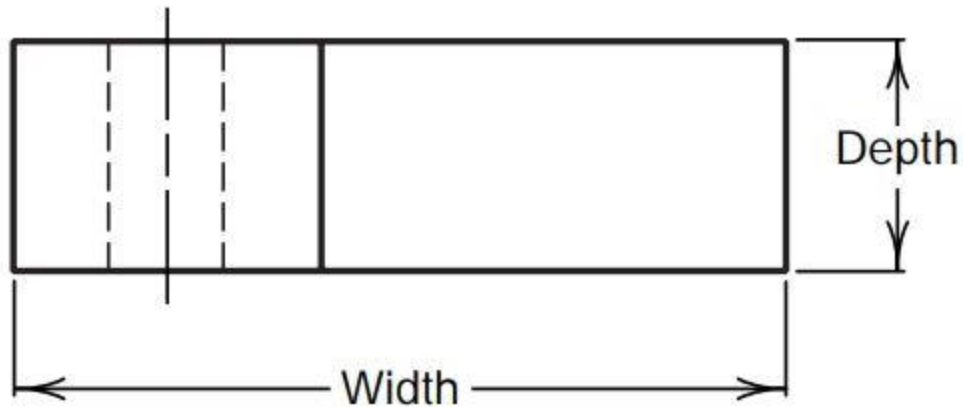

Figure 2: Dimensions indicating the width and depth (or height) of an object
(A) **Horizontal:** this distance or measurement is made from left to right (or vice versa) relative to the drawing plane (paper or computer), as shown by the *width* (the horizontal dimension) in Figure 2. Horizontal and vertical distances can be expressed in standard units of linear measurement—mainly in meters, millimeters, inches, and feet.
(B) **Vertical:** this distance or measurement is made from up to down (or vice versa) relative to the drawing plane (paper or computer), as shown by *depth* or *height* (the vertical dimension) in Figure 2.
Angular dimension is the type of engineering drawing dimension that is indicated either in only degrees or a combination of degrees ($^{\circ}$), minutes ($'$), and seconds ($''$) which are the units of angular dimension. In any situation(s) where only minutes and seconds are specified, a zero (0) is placed before the number of minutes or seconds, as shown on the last diagram in Figure 2—examples of angular units used in angular dimensioning.